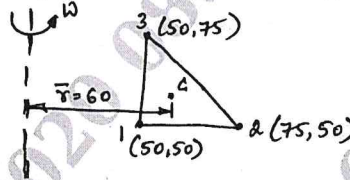

Fig.Q9(b)
b. For the element of an axisymmetric body rotating with a constant angular velocity  $\omega = 1000$  rev/min as shown in Fig.Q9(b), determine the body force vector. Include the weight of the material, where the specific density is  $7850 \text{ kg/m}^3$ .